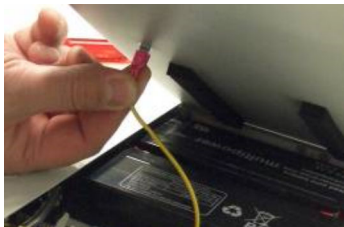

Fig. 89: Earthing plugs
9. ▶ Remove the earthing plugs from the front and rear cover (Fig. 89).